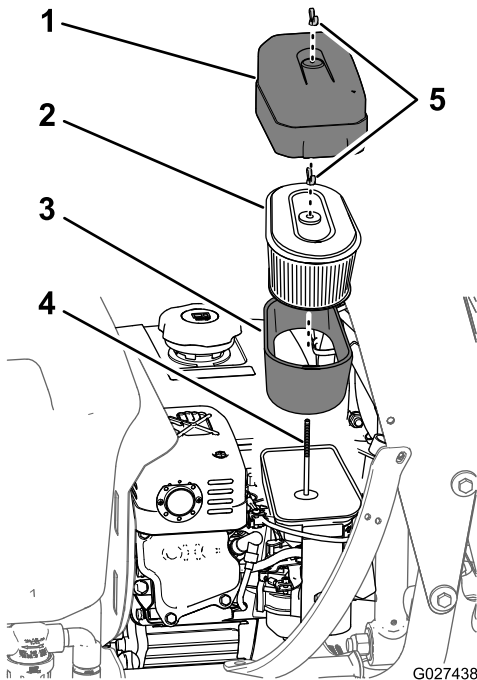

Figure 58
2. Clean around the air cleaner to prevent dirt from getting into the engine and causing damage (Figure 58).
1. Inspect the element for tears, an oily film, or damaged (Figure 58).
1. Carefully slide the foam filter element onto the paper filter element (Figure 58).
2. Align the hole in the top plate of the paper filter element with the hold-down rod of the carburetor (Figure 58).
3. Secure the filter elements to the carburetor with the wing nut (Figure 58) that you removed in step 4 of Removing the Foam and Paper Elements (page 52).
4. Align the hole in the air-cleaner cover with the hold-down rod (Figure 58) and secure the cover to the rod with the wing nut that you removed in step 3 of Removing the Foam and Paper Elements (page 52).
3. Rotate the wing nut that secures the air-cleaner cover counterclockwise and remove the air-cleaner cover (Figure 58).
4. Rotate the wing nut that secures the paper and foam filter elements counterclockwise and remove the filter elements from the hold-down rod of the carburetor (Figure 58).
5. Carefully pull the foam element off the paper element (Figure 58).